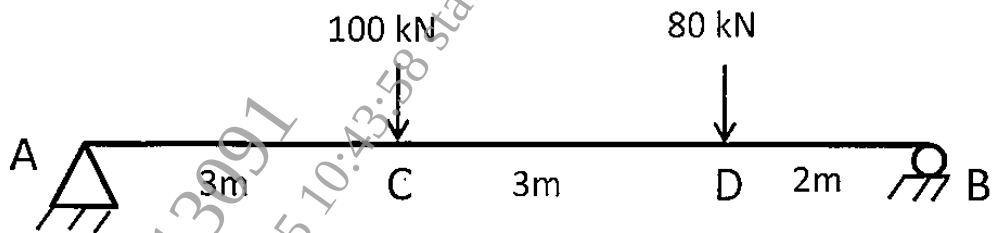

Figure 4
- Q4) a)** Plot Shear force and Bending moment diagram for the simply supported beam loaded and supported as shown in Figure 4 [8]